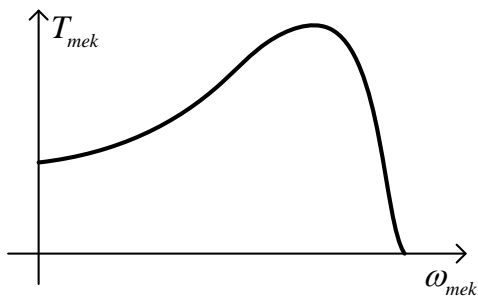

Figure 2: Induction motor mechanical torque versus mechanical speed
- a) Figure 2 shows a typical inductor motor curve relating the mechanical speed ω_{mek} to the mechanical torque T_{mek} . Disregard mechanical gear and magnetic poles. Redraw the curve into your answer, and indicate the following items in the figure: